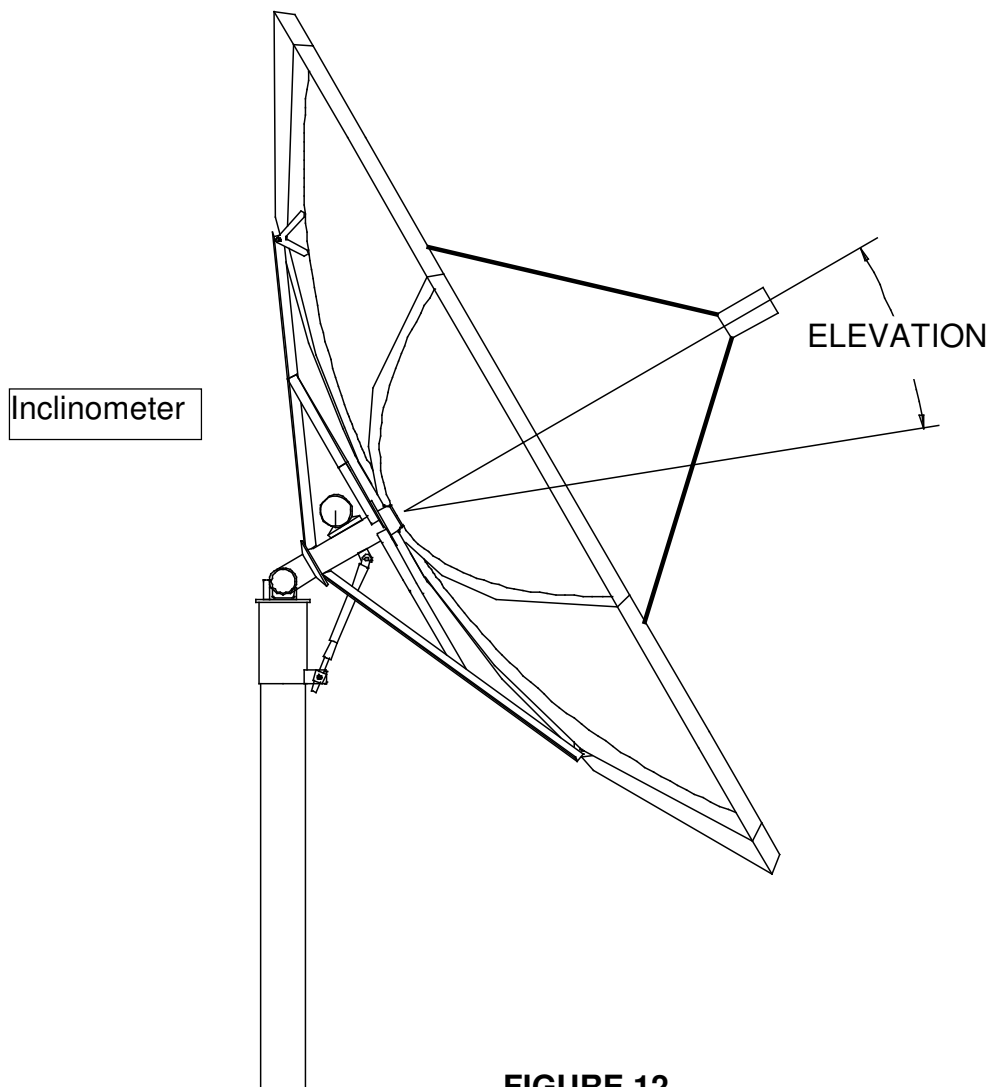

FIGURE 12
1. Prior to setting the rough elevation angle, make sure that the threaded portion of the elevation rod is centered in the elevation block. Place an inclinometer on the hub as shown in figure 12.